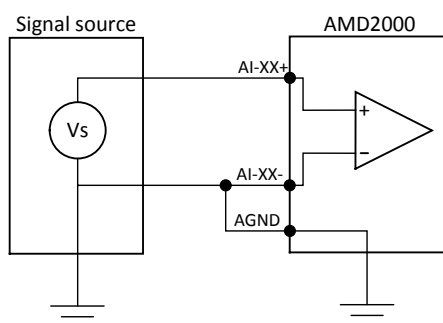

Figure 7-5 Typical Example of Ground Referenced Single-Ended Connection
**Note:** In the scenario presented in Figure 7-5, any potential difference (in many cases this is 50/60Hz powerline noise) between signal source ground and measurement system ground will be picked up into the measurement result.